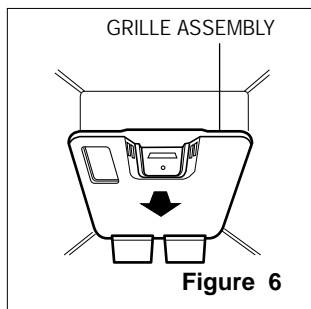

Figure 6
1. Pull out the grille assembly. (Figure 6)